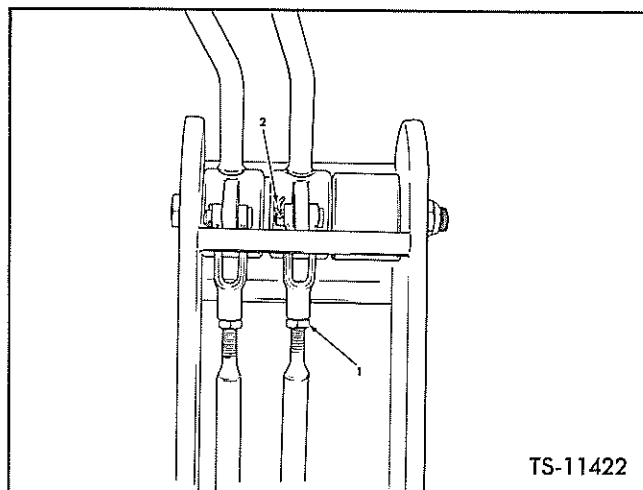

Fig. 26. Adjust Boom and Bucket Control Levers
The adjustment can be made as follows: See Figure 26.
1. Loosen locknut (Item 1 Figure 26) on control rod.
2. Remove cotter and clevis pin (Item 2 Figure 26).